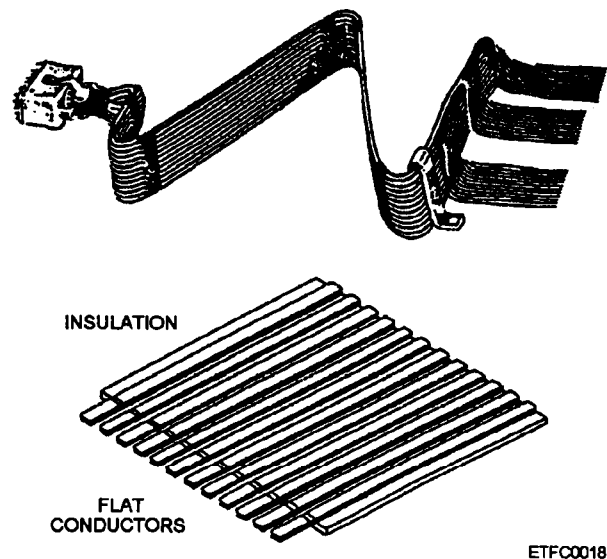

Figure 2-32.—Flat cable.
**FLAT CABLES.**— Flat cables consist of multiconductors. They can have individually insulated round conductors (solid or stranded) or bare conductors sandwiched between layers of insulation. See figure 2-32 for an example. Flat cables can be terminated with single-piece pcb or card-edge connectors, two-piece plug and receptacle pcb connectors, rectangular multipin connectors, or IDCs. They can be used for parallel and serial transfer of data. They are used extensively with microcomputers.